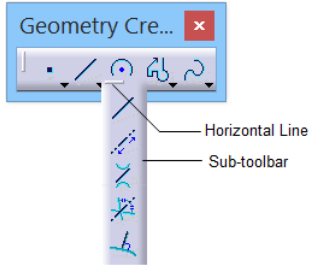

Figure 1-37 The sub-toolbar that appears on clicking a down arrow
You will notice a down arrow at the bottom right corner of the buttons in most of the toolbars. When you click on this arrow, a flyout will appear. Figure 1-37 shows the flyout that appears when you click on the down arrow of the **Line** button in from the **Geometry Creation** toolbar.
*The sub-toolbar which appears on choosing the down arrow becomes an independent toolbar if you click on the line available on its top, refer to Figure 1-37. This line can be on the top or left of the sub-toolbar, depending on whether the sub-toolbar is horizontal or vertical.*